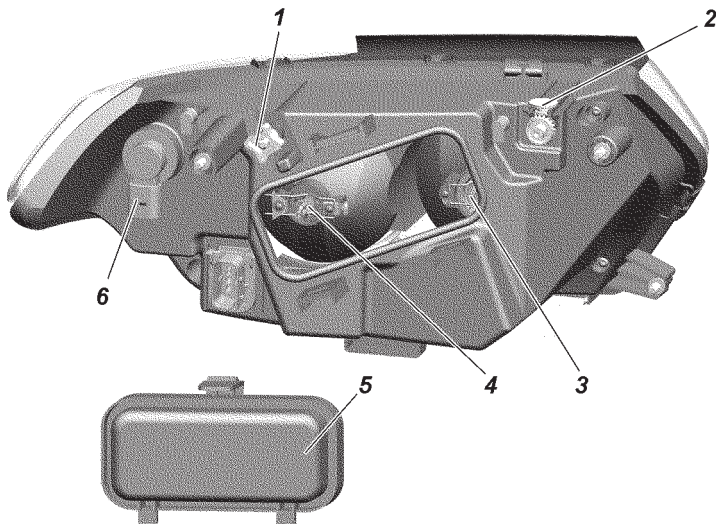

Fig. 9.41. Headlamp:
3. Switch on low beam and, closing each headlamp in turn, rotate adjusting screw 1 (Fig. 9.41) and adjusting gear 2, so that cutoff line from E and E' points on the left coincides with line 1 and on the right coincides with lines 2 and 2' for the left and right headlamps respectively.
Headlamp replacement. To change T/signal lamps remove the connector from socket 6 (Fig. 9.41), turn the socket clockwise (for the right headlamp) or counter-clockwise (for the left headlamp) and remove the socket with the bulb.